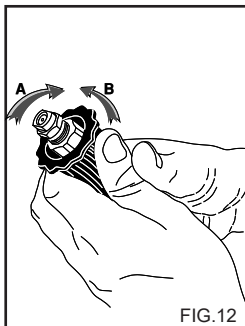

FIG.12
USING THE ADJUSTABLE HEAD (fig. 12)
2) Start the cleaner, turn on the detergent tap (if present), switch on the detergent suction control on the lance (fig. 12) and spray the dirty surface with the diluted product, working from bottom to top.